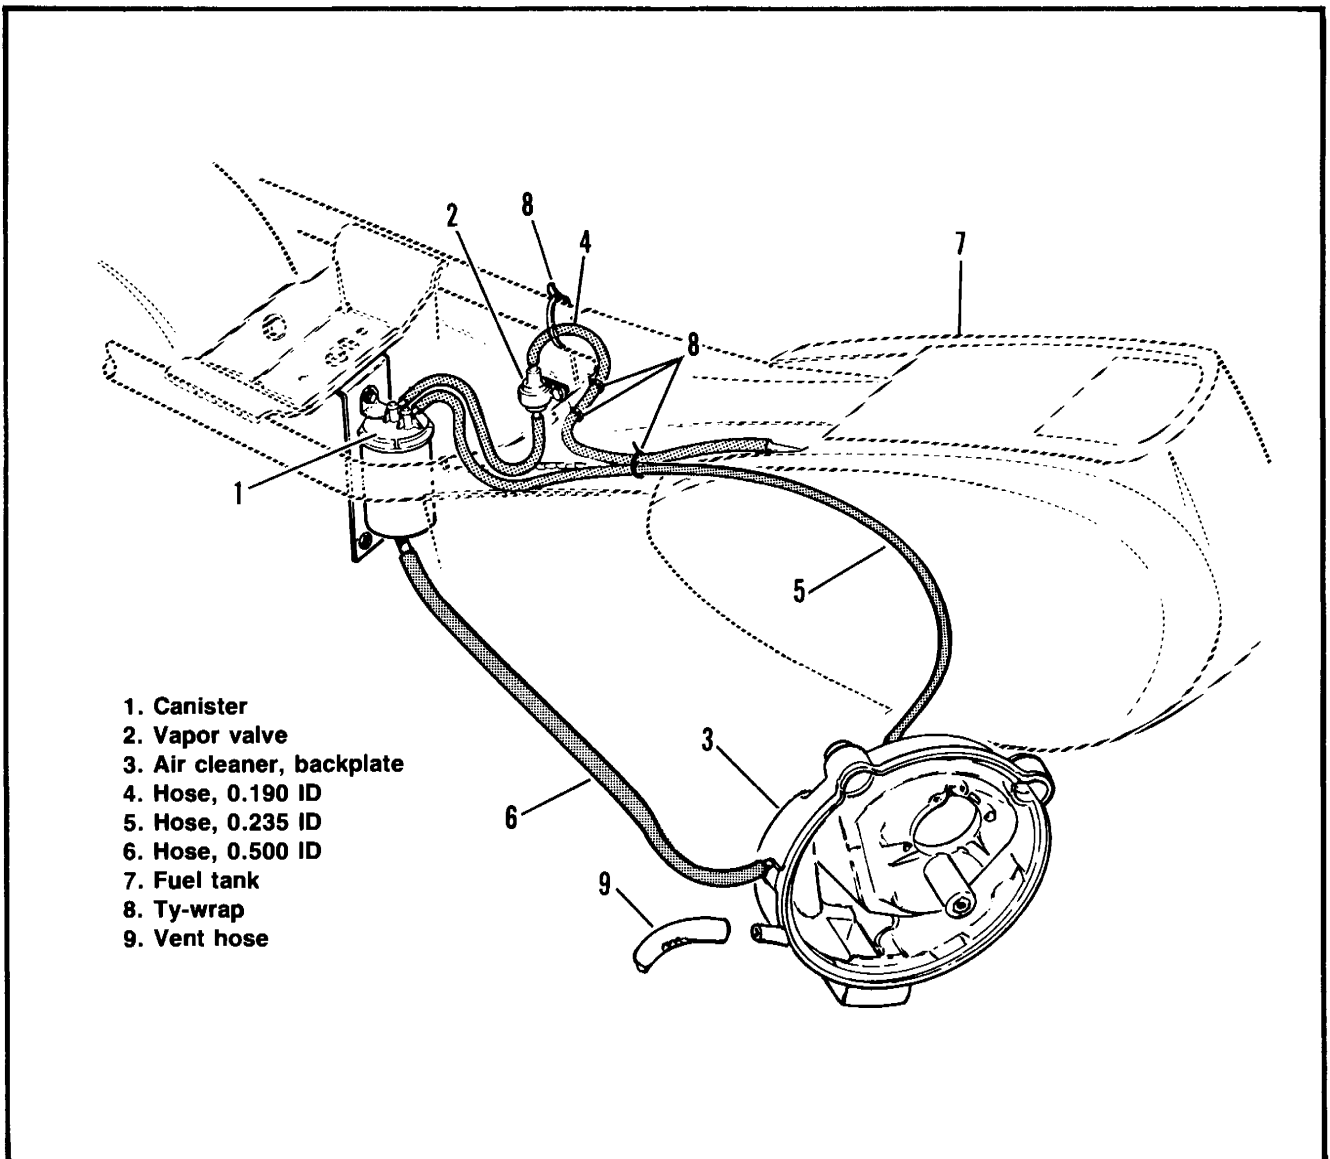

Figure 4-40. Evap. System
1. See Figure 4-40. Take small diameter-0.190 I.D. hose (4) and push one end over fitting at top of canister labeled "tank". Direct hose to bottom of vapor valve, leaving a generous loop in hose, then cut to length. Push free end of hose over lower fitting on vapor valve (2).
2. Take remaining portion of small diameter hose and push one end over top fitting on vapor valve (2). Lead hose around top from opening under seat and ty-wrap hose to adjacent cable at two points as shown in Figure 4-40. Extend hose along right frame member to tank hose nipple. Cut hose to length. Push free end of hose over tank nipple.
3. Take 0.235 I.D. hose (5) and push one end over fitting at top of canister labeled "carb". Lead hose along right side of frame next to hose (4) and ty-wrap the two hoses (5) and (4) together. Bring hose down to carburetor purge fitting. Cut hose to length.